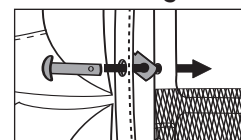

Figure 3C
- C. Thread the clevis pins back into position, make sure to go through the packbag, the foot of the hold-open bar and the frame (Figure 3C), then replace the split ring.